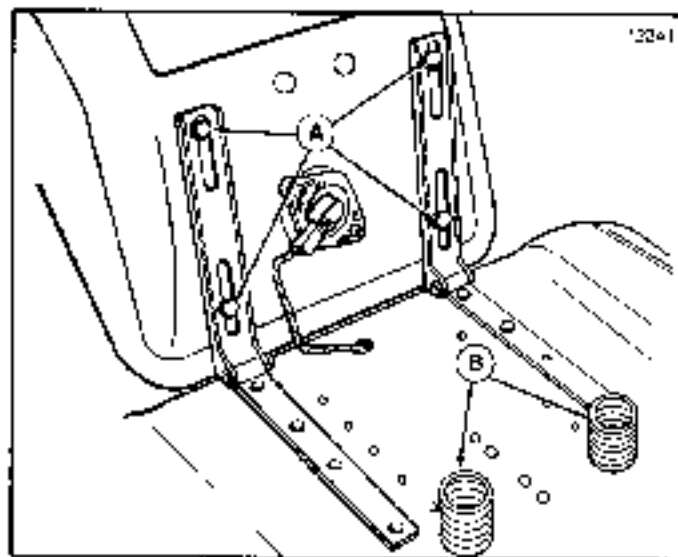

Figure 23. Seat Adjustment
1. Lift up the seat as shown in figure 23
3. The springs (B) can be moved to different holes in the deck for maximum riding comfort. A lighter person will want to move the springs more forward. To change position, lift the springs and move to desired holes.